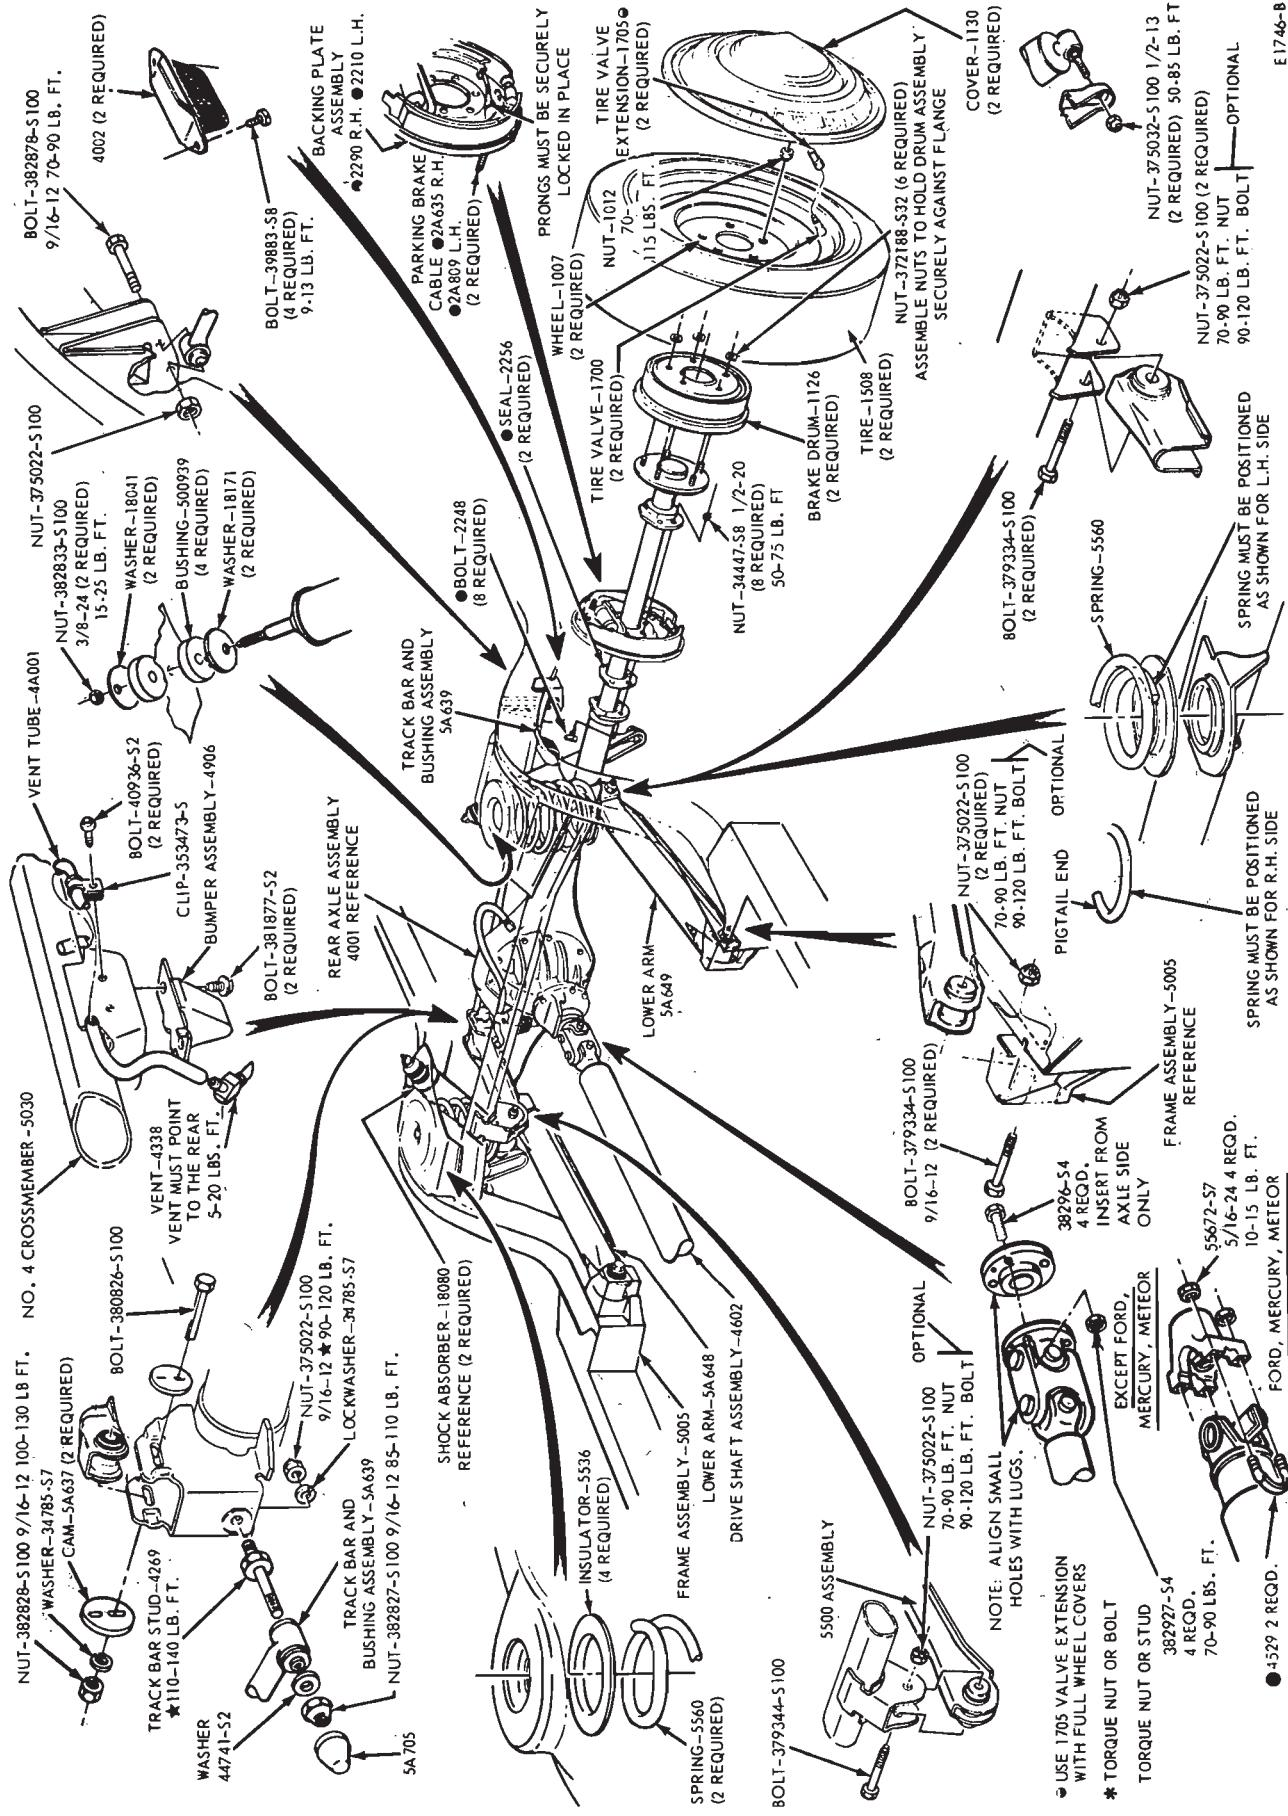

FIG. 13—Rear Axle Installation—Coil Spring Suspension
6. Disconnect the lower studs of the two rear shock absorbers from the mounting brackets on the axle housing (Fig. 13).
10. Disconnect the upper suspension arm from the axle housing by removing the pivot bolt, nut, lock washer and the two eccentric washers (Fig. 13).